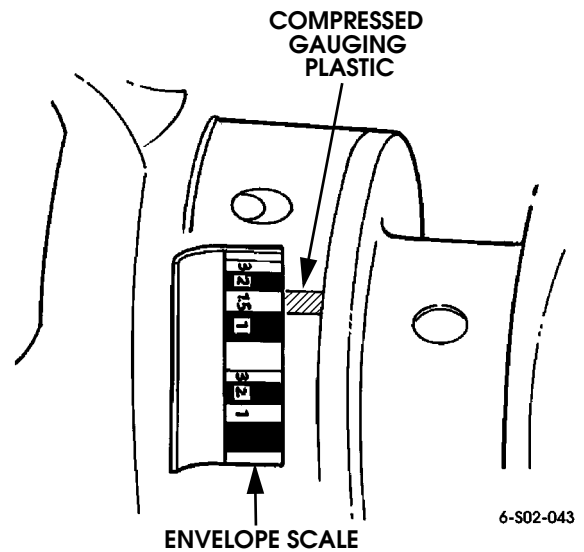

Figure 2-179: Measuring Gauging Plastic to Determine Bearing Clearance
8. Remove main bearing caps and measure plastigauge with graduated scale on gauge envelope (Figure 2-179). Measure widest point of compressed plastic.